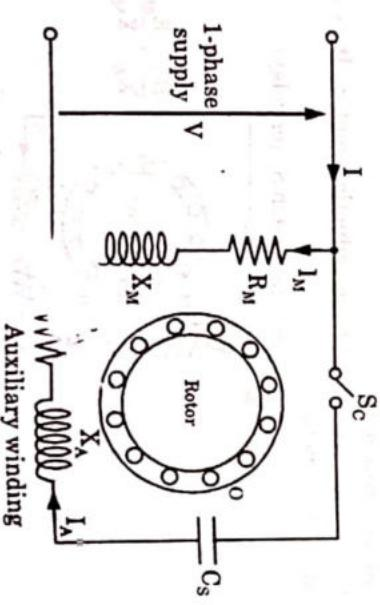

Fig. 4.31.2. Capacitor start motor.
1. Fig. 4.31.2 shows the connections of a capacitor-start motor. It has a cage rotor and its stator has two windings namely, the main winding and the auxiliary winding (starting winding).
2. The two windings are displaced  $90^\circ$  in space. A capacitor  $C_s$  is connected in series with the starting winding. A centrifugal switch  $S_c$  is also connected as shown in Fig. 4.31.2.